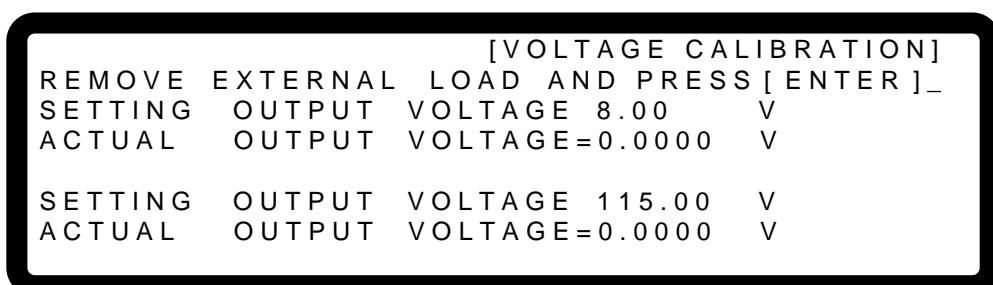

Figure 3-106
3. Press “**[ENTER]**” to display the voltage calibration options as shown in Figure 3-106.